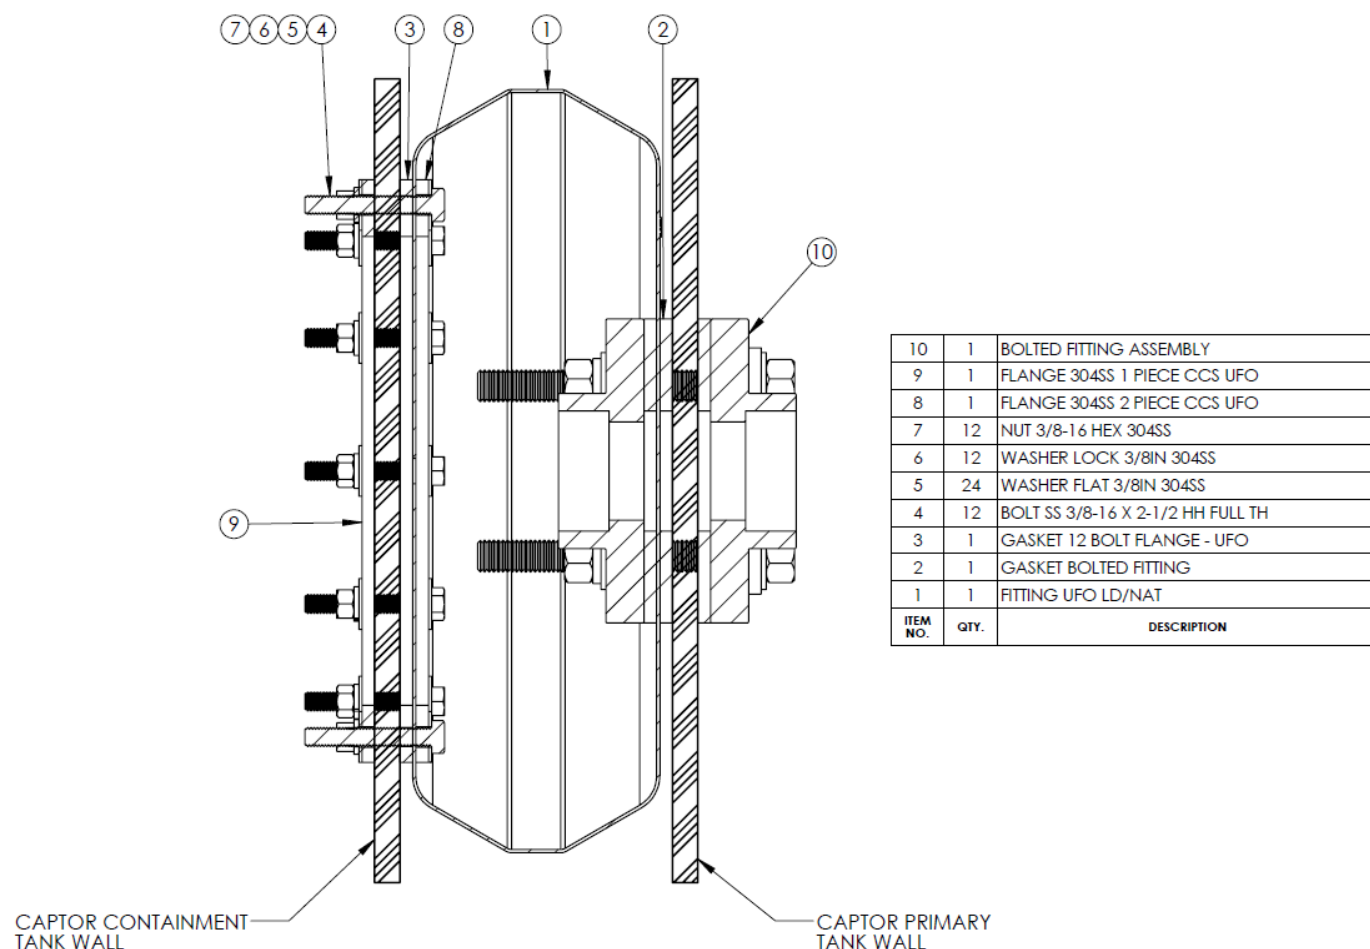

Figure 6.8
6.8.1 The Unified Fitting Outlet (UFO™) is a flexible outlet device that allows primary tanks to be equipped with sidewall fittings while maintaining a seal between the primary and containment tanks that moves with tank expansion/contraction. The UFO will allow 2 to 4 in. bolted fittings to be utilized while maintaining a flexible containment seal. This option is normally a factory installed option for use with a captor containment tank assembly only. This option can be field installed. Consult factory for more details. The bolted fittings used with this option follow the same sealing/tightening criteria as detailed in sections 6.3 and 6.4. An example of this option (patent RE 39.721) is shown in Figure 6.8.